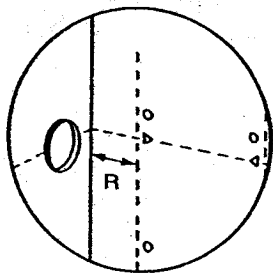

Fig. 40
1. For both Left and Right Hand Flue - Measure the distance from the wall to the nearest line marked from the template. This will be known as distance R (Fig. 40).